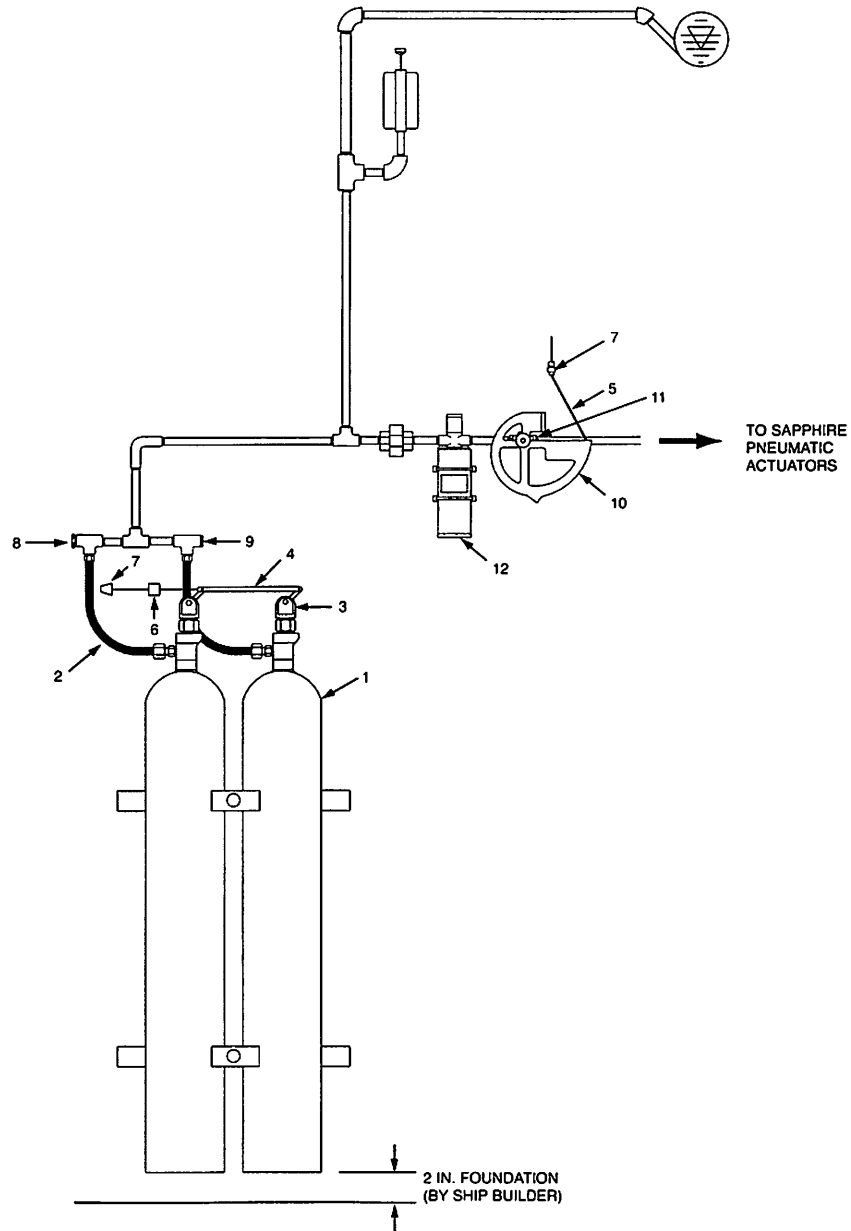

FIGURE 5
1. Pull cable actuation (Figures 5 and 6)